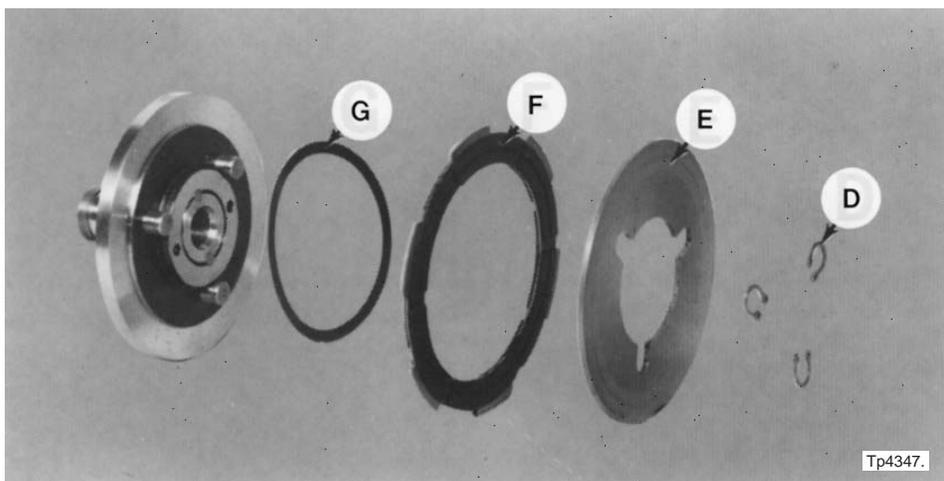

Figure 1.20 - Cross Feed Clutch Components
- d) Remove snap rings "D", clutch disc "E", clutch plate "F", and wave washer "G", Figure 1.20 .
- a) Replace wave washer “G”, clutch plate “F”, clutch disc “E”, and snap rings “D”, Fig. 1.20.